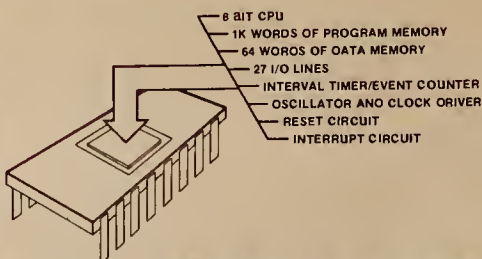

Figure 1. The Intel 8048/8748 is a single-chip microcomputer containing all the functions required for a simple controller.
Let's start with the basics. For our purposes, a microprocessor is a single integrated circuit (IC) component containing the basic control logic for building a small (micro) computer. Usually you need other components for building a functioning computer, though it's even possible to get everything on one chip (see figure 1).